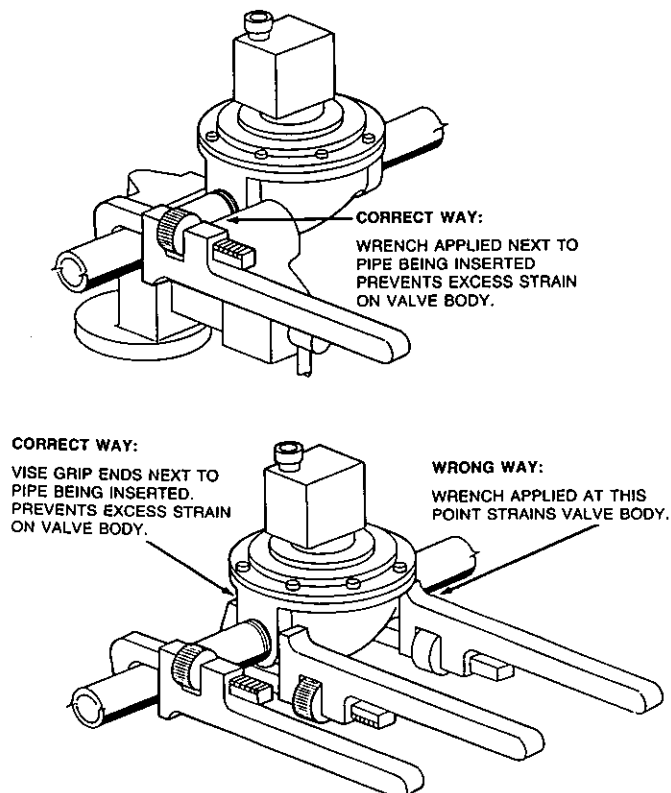

FIGURE 67
Install mechanical gas valve to its selected location in gas line so that it ensures safe shut-off to all predetermined appliances being protected upon actuation of the system. Mechanical gas valves may be mounted in any convenient horizontal or vertical position. See Figure 67.
- c. Wrench tighten pipe to gas valve. **DO NOT USE GAS VALVE AS A LEVER WHEN INSTALLING OR VALVE DAMAGE MAY OCCUR.** See Figure 67.